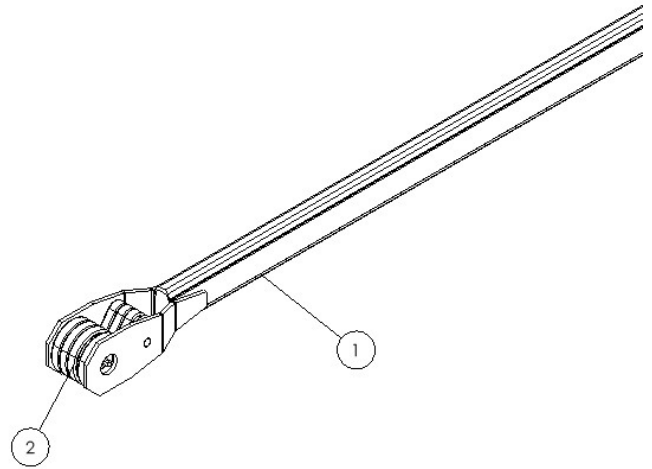

Figure 3.5
Place a stainless steel bushing onto the pivot pin. Insert the torsion springs (2) into the lower arms (1) such that the long leg of each torsion spring is above the pin on the lower arms as shown in Figure 3.5.